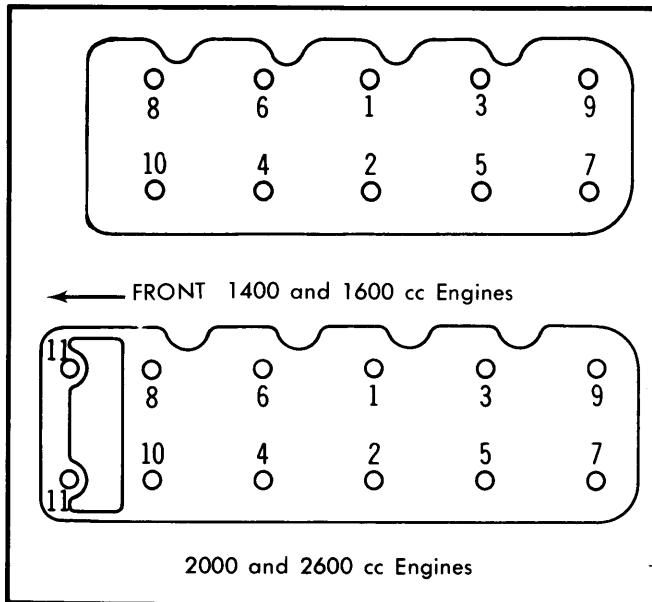

Fig. 2 Cylinder Head Bolt Tightening Sequence (Remove in Reverse Order)
5) Remove rocker cover and remove cylinder head bolts in the reverse of the sequence shown in Fig. 2. Lift off cylinder head being careful not to twist sprocket and chain (or belt).
2) Tighten cylinder head bolts to initial torque of 25 ft. lbs. (34 N.m). Follow sequence in Fig. 2. Repeat procedure, tightening bolts to final torque of 51-54 ft. lbs. (69-73 N.m).